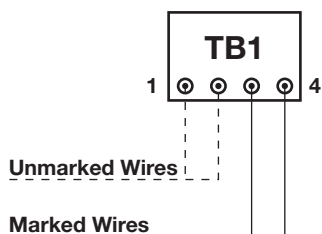

Figure 17
- a. The probe's leads have been separated at the factory. Connect leads from RTD #1, which are grouped and marked, to pins 3 & 4 (the two terminals on TB1 closest to the sensor label) refer to Figure 17.